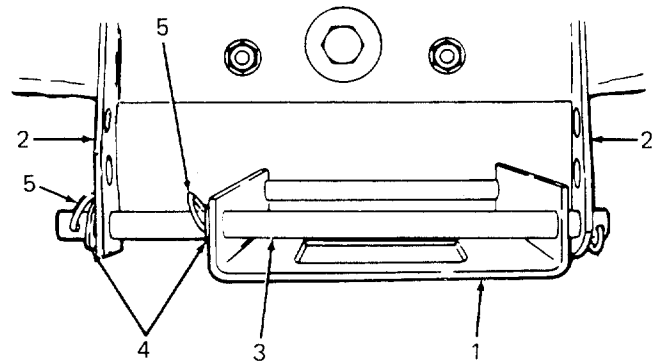

Figure 47
5. With the left front wheel turned to the left, attach the front hanger assembly to the front hanger bracket by passing the tractor hanger rod through the bottom mounting holes of the front hanger bracket. Remember to attach the center flat washer to the rod after it passes through the right side of the front hanger assembly. Refer to Figure 47. Secure the tractor hanger rod with flat washer and hairpin cotters.